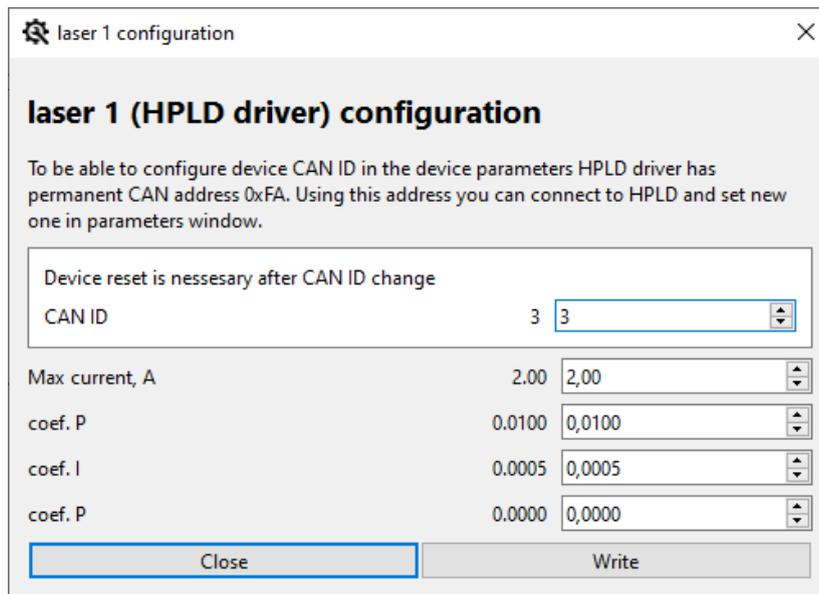

Figure 9: The laser diode setting menu
10. Click icon located in the control panel’s upper right corner to enter the driver setting mode. The driver setting mode allows entering the driver CAN ID and the maximum output current (fig. 9).
The user can access the laser diode settings menu by pressing the wrench icon in the expanded main control view. The wrench icon will open a new individual menu for each of the connected diodes, and the software applies the new settings only to that single diode. The user can specify a range of laser parameters. The available settings for HP drivers are shown in Figure 9.